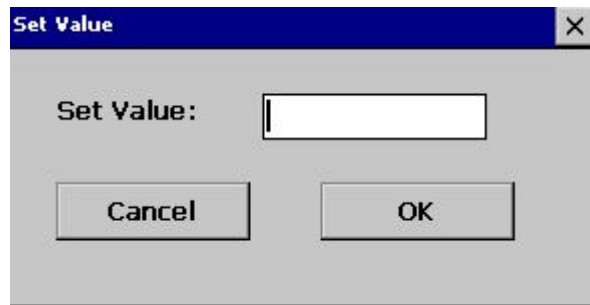

Figure 15 Variable Data Modification
- Variable display: the left column in figure 15 shows the directory structure of the variable. The right column shows the specific data of the selected variable. Different types of variable have different display formats. The floating type variable is correct to two decimal places.
- Variable data modification: click the data at right side in fig.15 and the variable modification dialog box pops up, as shown in the following figure: